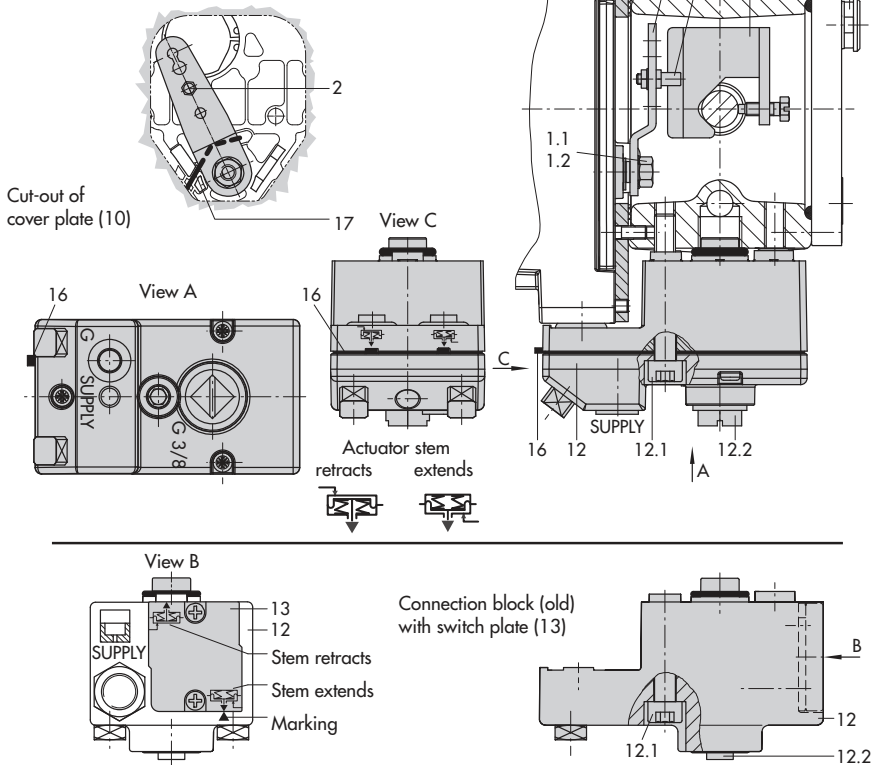

Fig. 5 - Direct attachment – Signal pressure connection for Type 3277 Actuator with 175 to 750 cm²
Mount the positioner onto the yoke as shown in Fig. 5. The signal pressure is routed to the actuator over the connection block (12), for actuators with fail-safe action "Actuator stem extends" internally through a bore in the valve yoke and for "Actuator stem retracts" through external piping.
1. Place follower clamp (3) on the actuator stem, align and screw it tight so that the mounting screw is located in the groove of the actuator stem.
2. Mount cover plate (10) with the narrow side of the cut-out (Fig. 5, left) pointing towards the signal pressure connection. Make sure that the bonded gasket (14) points towards the actuator yoke.
3. **Actuators with 355, 700 and 750 cm²:** Remove the follower pin (2) at lever **M** (1) on the back of the positioner from pin position **35**, reposition it in the hole for pin position **50** and screw tight.
4. Insert formed seal (15) into the groove of the positioner housing, pressing the four retaining rings over the housing screws and both fittings into the housing recesses.
5. Thread the bias spring (17) through the crosspiece underneath the lever (1) and push into the hole in the housing. Push the lever (1) until it engages into place. Place positioner on the cover plate (10) and fasten it using three fixing screws. Check whether the follower pin (2) rests on top of the follower clamp (3). The lever (1) must rest on the follower clamp with spring force.
6. Make sure that the tip of the gasket (16) projecting from the side of the connection block (12) is positioned above the actuator symbol that corresponds with the actuator with fail-safe action "Actuator stem extends" or "Actuator stem retracts." If necessary, remove the three fixing screws and the cover plate. Then reposition the gasket (16) turned by 180°. The previous version of the connection block (Fig. 5, bottom) requires the switch plate (13) to be turned such that the corresponding actuator symbol points to the marking.
8. Place the connection block (12) with the associated seal rings against the positioner and the actuator yoke. Screw it tight using the fixing screw (12.1). For actuators with fail-safe action "Actuator stem retracts", additionally remove the stopper (12.2) and attach the external signal pressure line.